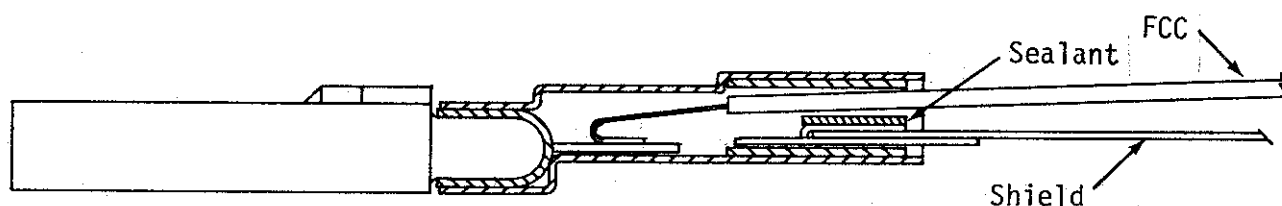

Figure 14. CTA-0055 Sealant Inserted Between FCC and Shield (Shield Below)
3. If a busbar/shield assembly is being terminated in this insert, position a strip of meltable sealant (P/N CTA-0055) between the FCC and the shield or busbar (Figure 14 or 15).